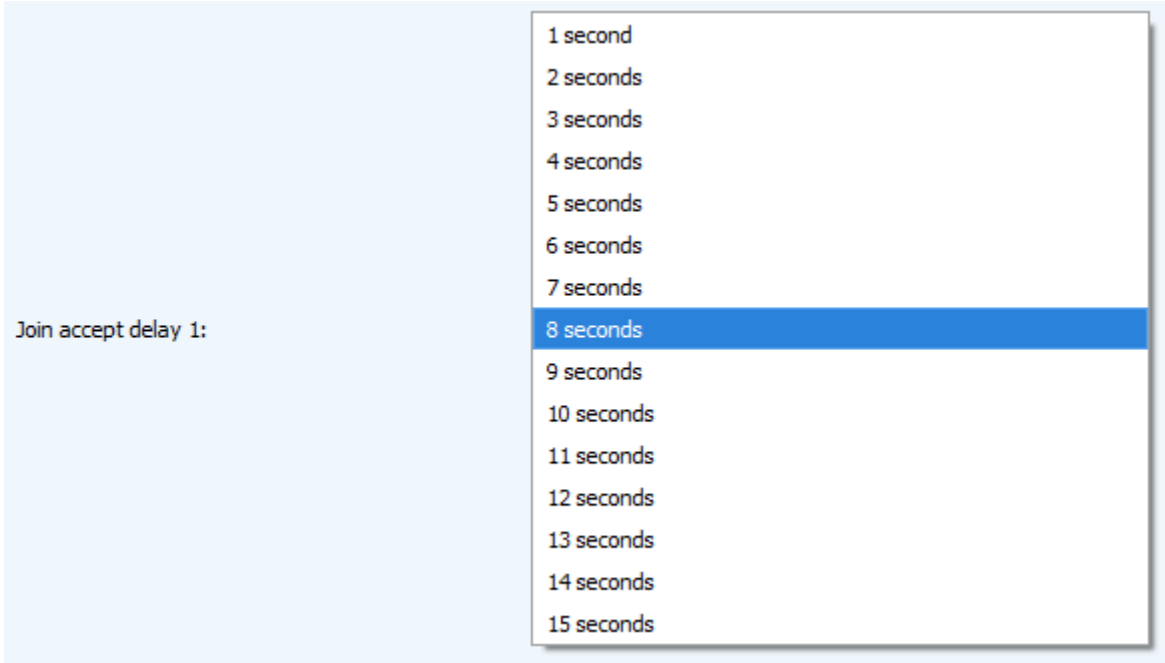

Figure 19 — Choice of the time for opening the first receiving window for join accept receiving
3.5.2.6 «Join accept delay 1» (not displayed in the "Simple" mode) – sets the time that the device will open the first receiving window to receive confirmation for the join request from the LoRaWAN network (fig. 19). The second window always opens after 1 second after the first.